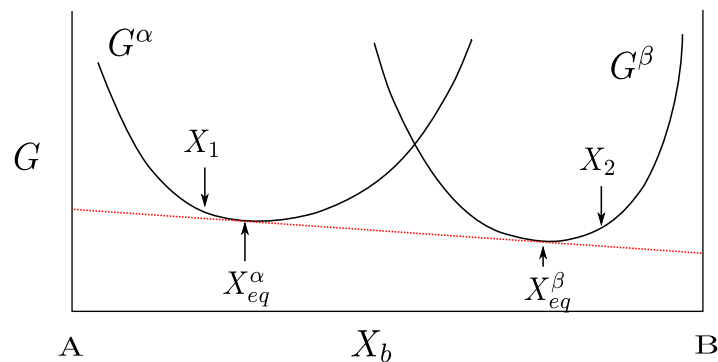

Figure 4.2: Free energy curves for a model A/B alloy.
5) Consider two binary alloys with compositions  $X_b = X_1$  and  $X_b = X_2$ , shown in Figure 4.2 along with the free energy curves for  $\alpha$  and  $\beta$  phases formed by this alloy. Draw the composition profile across the interface shortly after the two alloys are brought into contact with one another, assuming that the interface is in “local equilibrium”, i.e. the interface compositions are given by the equilibrium phase diagram. Describe the direction in which you expect the B atoms to diffuse on each side of the interface.